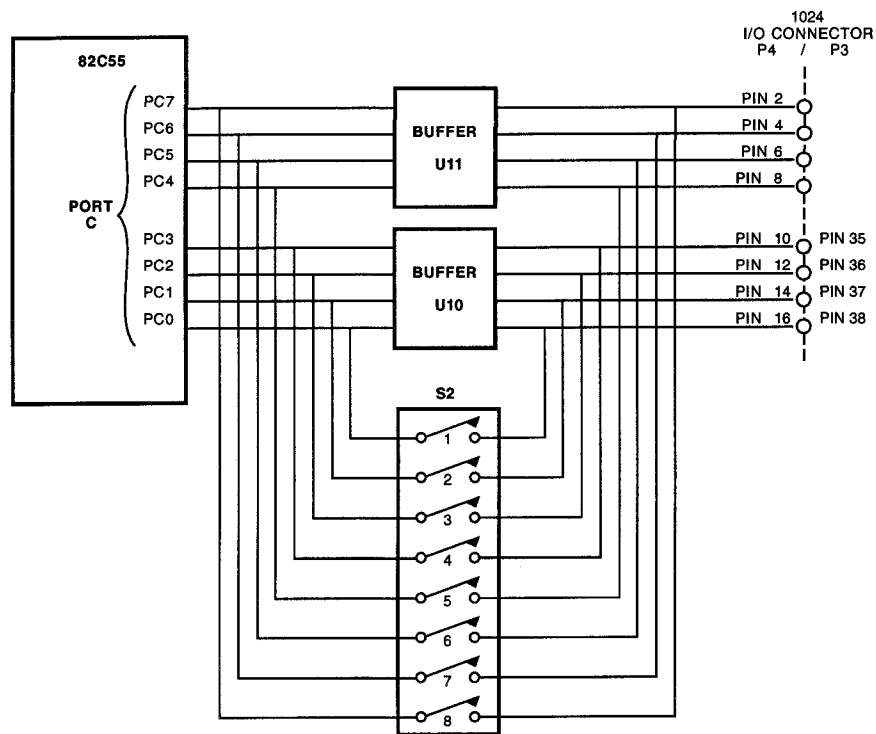
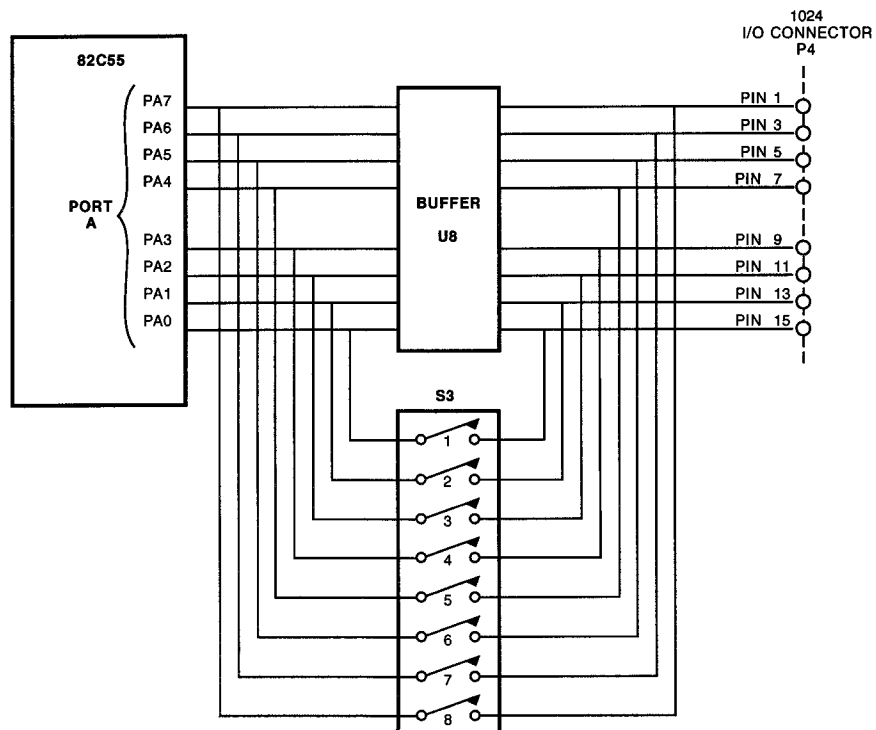

Fig. 1-6 — Port C Buffer Circuitry
Fig. 1-7 — Port A Buffer Circuitry
**Mode 1 Operation (S2)** — When operating the 8255 in Mode 1, the lines of Port C function as control lines, some as outputs and some as inputs. When using Mode 1, the Port C buffers must be removed and bypassed to allow the Port C lines to be individually set as inputs or outputs. Figure 1-6 shows the Port C buffers, and the following steps tell you how to configure the board for Mode 1 operation.
**Mode 2 Operation (S2, S3)** — When operating the 8255 in Mode 2, the lines of Port A must be bidirectional and the lines of Port C function as control lines, some as outputs and some as inputs. When using Mode 2, both the Port A and Port C buffers must be removed and bypassed. Figure 1-7 shows the Port A buffers, Figure 1-6 shows the Port C buffers, and the following steps tell you how to configure the board for Mode 2 operation.